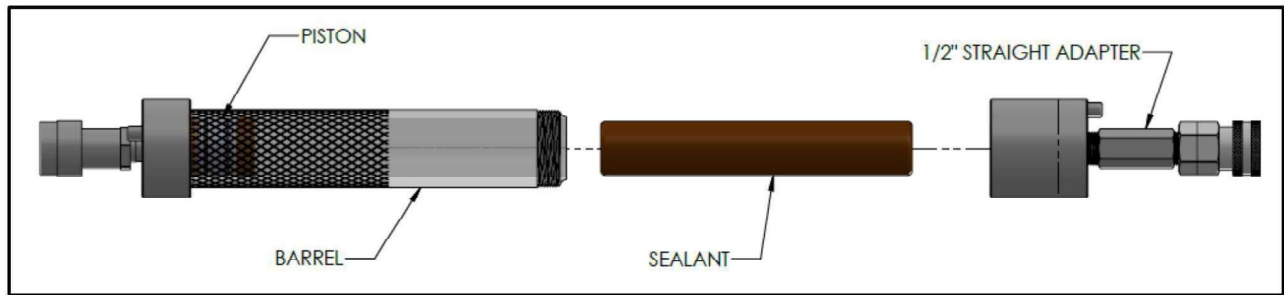

Figure 8
- 3.) Once the piston has been pushed to the bottom of the barrel, insert the selected sealant. Screw on the 1/2" straight adapter. Proceed to injecting sealant. When the barrel is empty repeat step 2 and 3 to load more sealant. (See Figure 8)